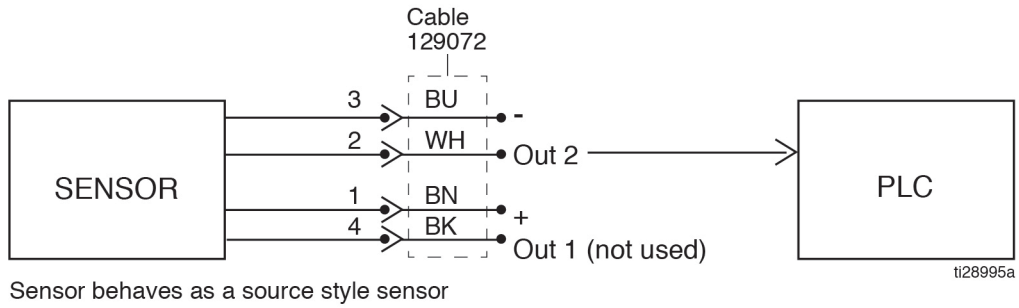

FIG. 13
**NOTE:** Graco GLC2200 (part number 24N468, Series F or later only) can be used to run the pump and monitor the low level. Refer to FIG. 13 for Low Level Sensor wiring in systems controlled with a GLC2200. A Low Level Sensor cable (part number 129072) and a GLC2200 Wiring Harness (part number 24P314) are required.